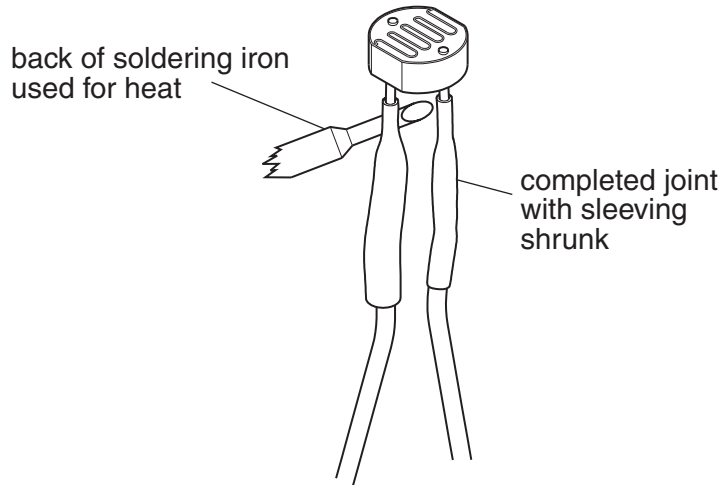

Fig. 4
- (iii) Heat shrink sleeving reduces in diameter when it is heated. It is used to cover a soldered joint from a component leg to a wire as shown in Fig. 4.